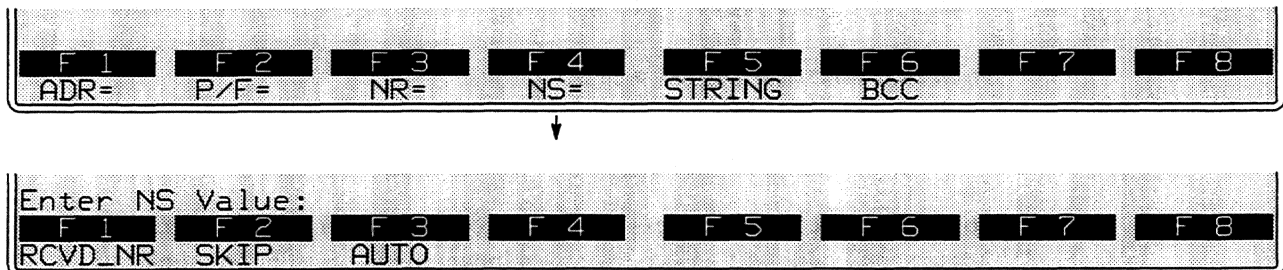

Figure 39-24 The N(S) field may be specified in a SEND INFO action.
8. N(S). N(S) fields are transmitted in INFO frames only. (See the frame–field diagrams in Figure 39-5.) Entries for N(S) in SEND INFO actions are optional. The softkeys that open below NS= are illustrated in Figure 39-24.